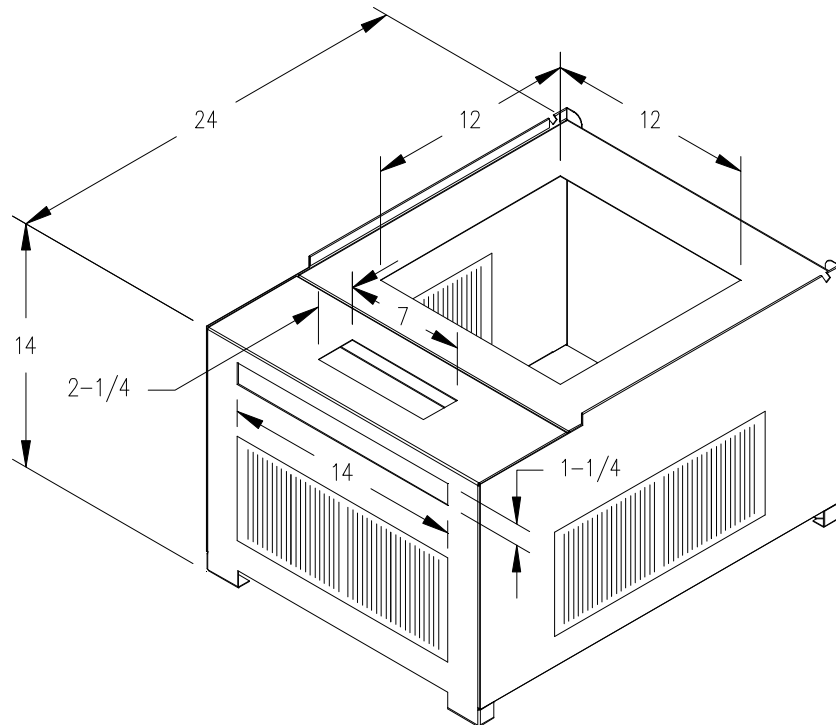

Figure 1C.
3. Model VMA4 furnace may be installed on a combustible floor when utilizing either the No.V70-BASE counterflow floor base or VE113S / VE213T coil cabinet for below the floor duct systems, or the cottage base for floor level air distribution. See Figure 1A for description of Combustible Floor Base and Figure 1C for Cottage Base.
The VCOT-BASE cottage base (Figure 1C) is required for a freestanding cottage base installation. The cottage base allows the two sides and rear to have an 8" x 12" register installed. **IMPORTANT: All joints and seams of supply ducts must be sealed with a sealing method suitable to the application conditions and temperatures (I.E. High temperature silicone and/or aluminum tape).** Refer to assembly and installation instructions included with cottage base for additional information.